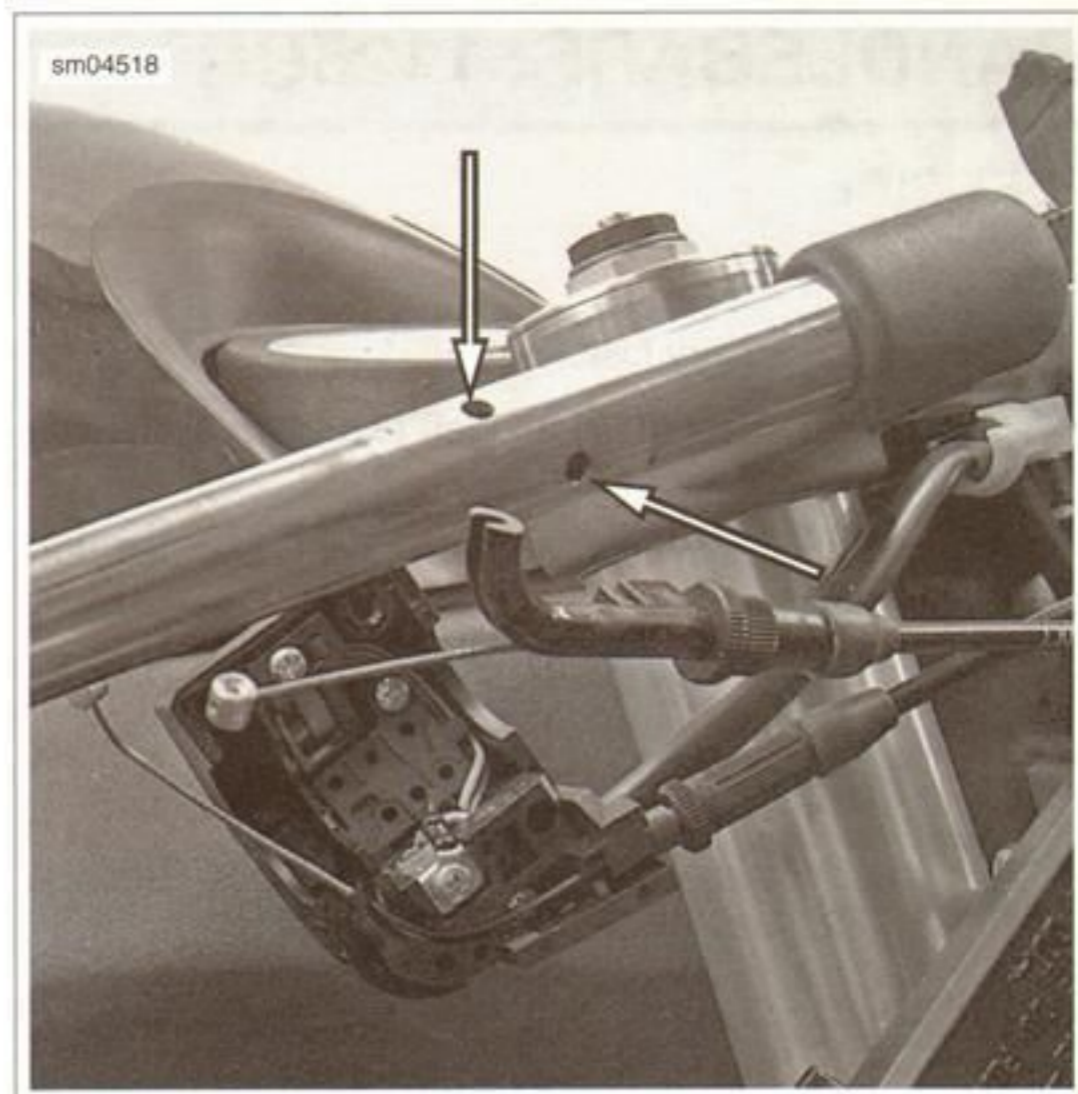

Figure 2-145. Switch Housing Alignment Holes
- See Figure 2-145. Orient the clip-on switch housings holes forward and install the clip-on.